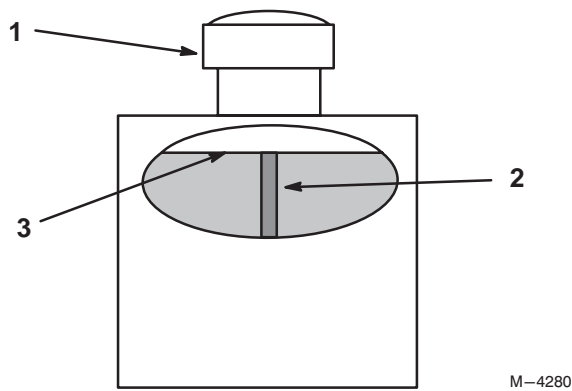

Figure 38
2. Clean area around filler neck of hydraulic tank (Fig. 38).
3. Remove cap from filler neck. Look inside to check if there is fluid in the reservoir. (Fig. 38).
Note: Fluid level should be to the top of the baffle when fluid is warm (Fig. 38).